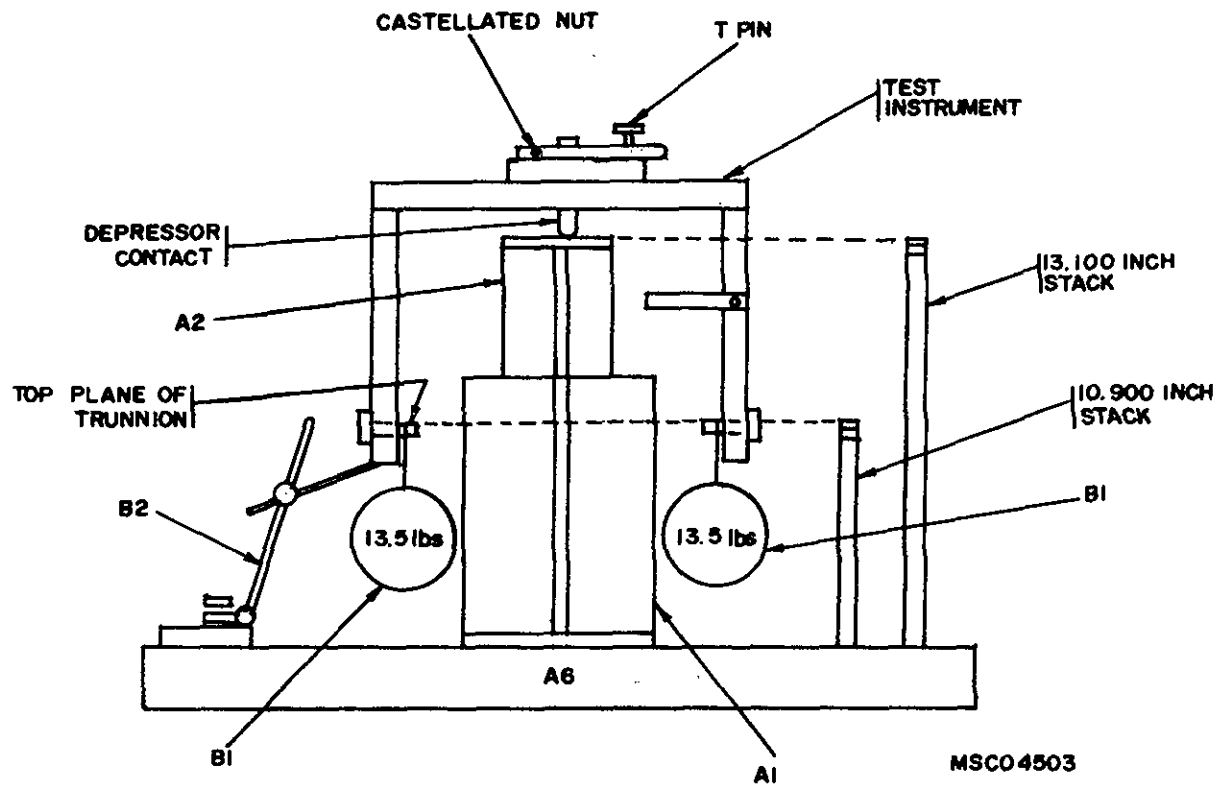

Figure B-1. Equipment setup.
- a. Prepare two 13.5 \pm 0.1 lb. bags of lead shot (B1), and tie a loop at the top of each bag to permit hanging from each trunnion as shown in figure B-1.
- c. Set up equipment as shown in figure B-1 and allow to stabilize for at least 12 hours.
- d. Remove T pin (fig. B-1) and rotate TI depressor arm to upper limit (2.254 in.) position. Replace and secure T pin.
- e. Check parallelism from top planes of trunnions (fig. B-1) to surface plate (A6), using electrical height gage (A3). If parallelism is not within \pm 0.0002 inches, perform (1) through (3) below:
- (1) Determine the low side trunnion, using electrical height gage.
- (2) Position surface gage (B2) pointer under low side trunnion and, using adjustment on base, raise low side trunnion to adjust for parallelism.
- (3) Repeat (1) and (2) above until parallelism is within \pm 0.0002 inches. Do not remove or adjust surface gage after parallelism is obtained.
- (1) Perform a(6) and (7) above.
- (2) Subtract value recorded in a(7) from value recorded in a(5). If this value (travel range) is between 0.01 10 and 0.0150 inches, perform adjustments in (3) through (7) below. If travel range is not within limits, no adjustments can be made.
- (3) Determine a value that will bring both values within tolerance, and make up a gage block stack equal to the value.
- (4) Remove cotter pin from castellated nut (fig. B-1) and loosen nut.
- (5) Adjust setscrew to value determined in (3) above.
- (6) Tighten castellated nut to 5-8 in. lb, using torque wrench (B3) and replace cotter pin.
- (7) Repeat paragraph 7e and a(1) through (7) above.